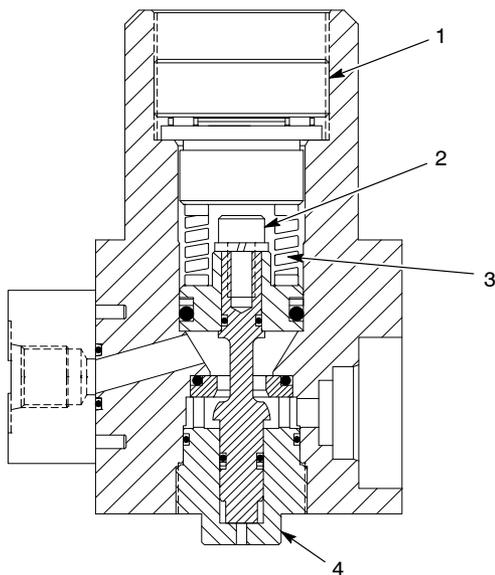

Figure 26: AG-900+/AG900+S Applicator Regulator Assembly
4. See Figure 26. Unscrew and remove the regulator adjustment screw (1) from the regulator body. Remove the spring seat (2), thrust bearing (4), and spring (3) from the regulator piston bore.